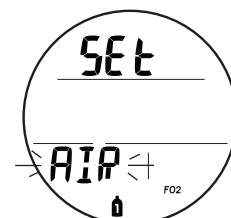

Fig. 47A - SET FO2 GAS 1 (for Air)
- > Graphic AIR flashing (Fig. 47A), with Gas (tank) 1 (or 2 or 3) and FO2 icons.